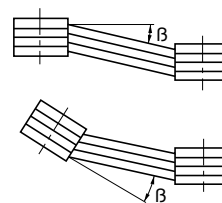

Fig. 7
- The parallelism and eccentricity ( $\beta$ ) between two pulleys should be within  $20'$ . (Fig.7)